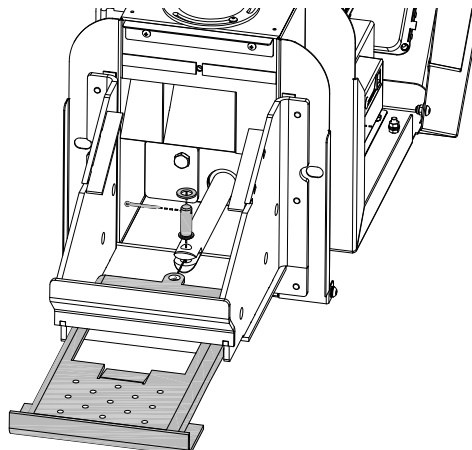

Fig. 26 Disconnecting the actuator from the drawer.
4. Back in the burning chamber: unbend the thin split pin and pull it out from the thick pin. The latter serves as a coupling connecting the drawer and the actuator. Remove the thick pin and pull the drawer out (Fig. 26);